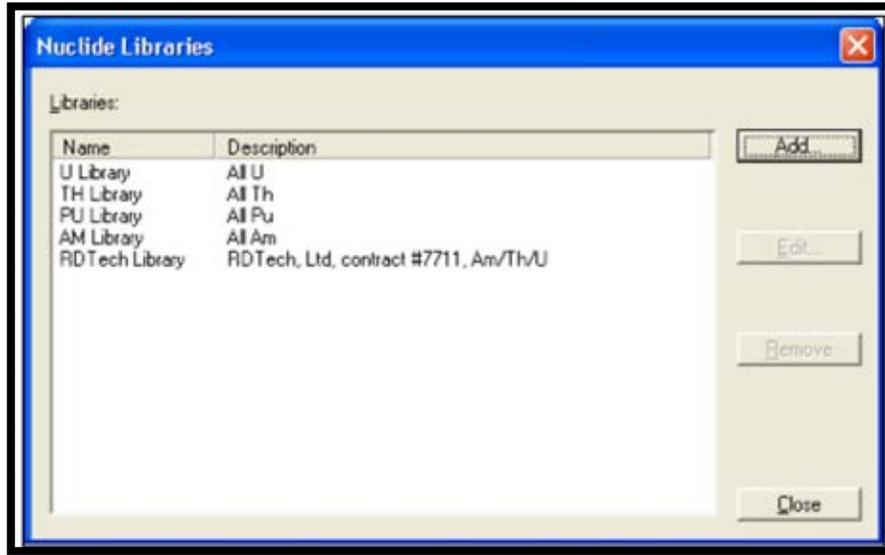

Figure 55. Existing Nuclide Libraries
- 1) Click **Edit/Nuclide Libraries...** or the **Nuclide libraries** button on the toolbar. This will open the dialog shown in (Figure 55).